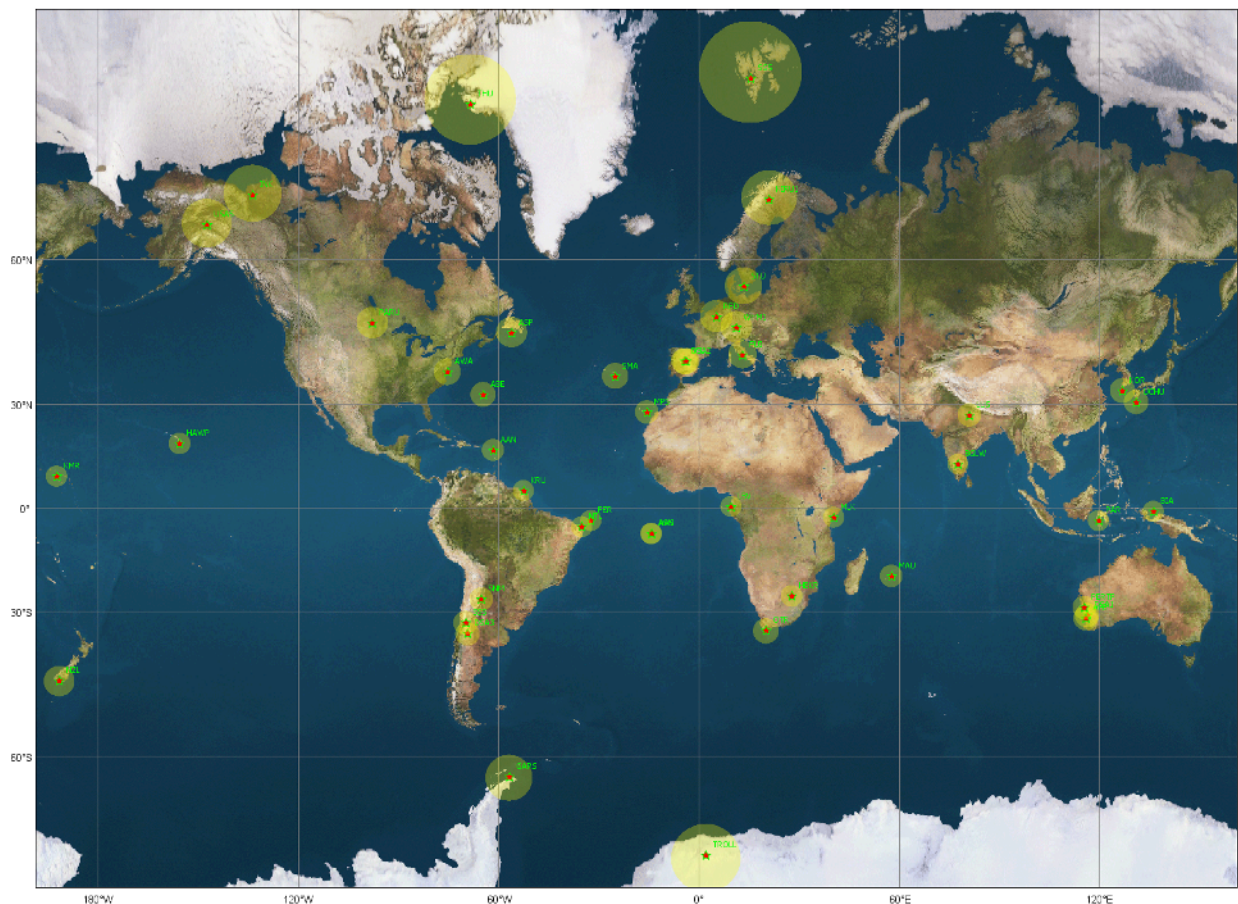

Fig. 2.5: Built-in ground stations in ASTOS. ASTOS
- *Ground Stations ...* is used to enable or disable the visualization of ground stations (only available in the *Map-Plot* and in the *3D Map-Plot*). This option opens a dialog, where ground stations can be selected from a predefined catalogue of existing ground stations. Additionally, the visual representation for each ground station and its corresponding field of view can be specified (symbol, colour, labels and opacity of the field of view to display visibility regions). The *Preview* panel also provides information about the ground station (identifier and coordinates). In a *Map-Plot* the *Reference orbit altitude* has to be specified in order to plot the ground station visibility circle at this altitude. Fig. 2.5 shows a *Map-Plot* with all built-in ground stations available in ASTOS and their corresponding visibility circles at 10000.0 meters of altitude.